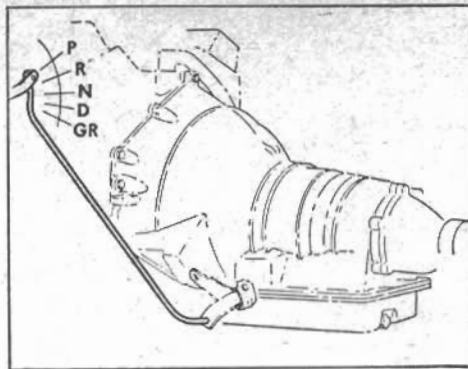

Fig. 30 Shift linkage adjustment, 1958 Turboglide Typical of 1959
3. Place transmission shift control outer lever in Drive Position. (Drive detent in transmission is the first clockwise detent position from the fully counterclockwise detent or "GR" position, Fig. 30.)